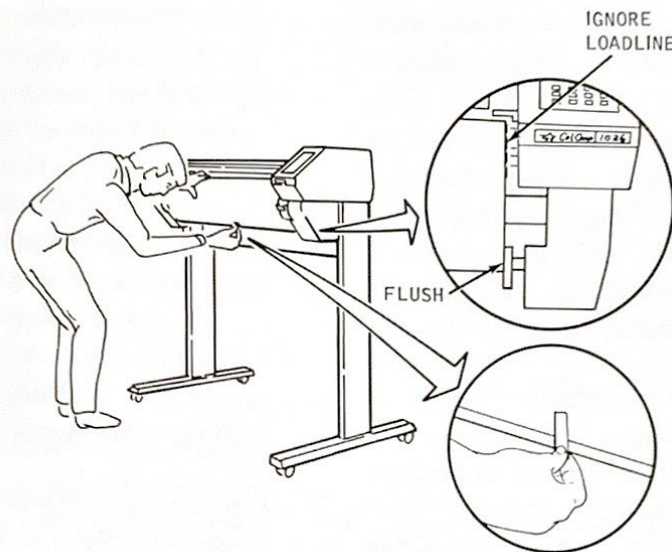

Figure 5-15. Securing Media to the Front Roll
5. Check the left-right alignment of the media. Be sure the right edge of the media is flush with the face of the spool at the control panel end of the front roll. Tape the approximate center of the cut end of the media to the approximate center of the take-up core. The position of the edge of the media with respect to the white loadline is ignored when the front roll is used. See Figure 5-15.